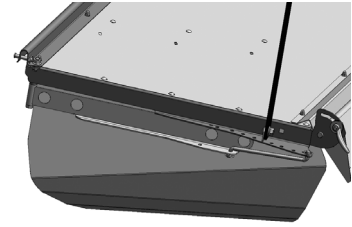

Figure 1
- 1) **Windrow Width Adjustment.** See Figure 1